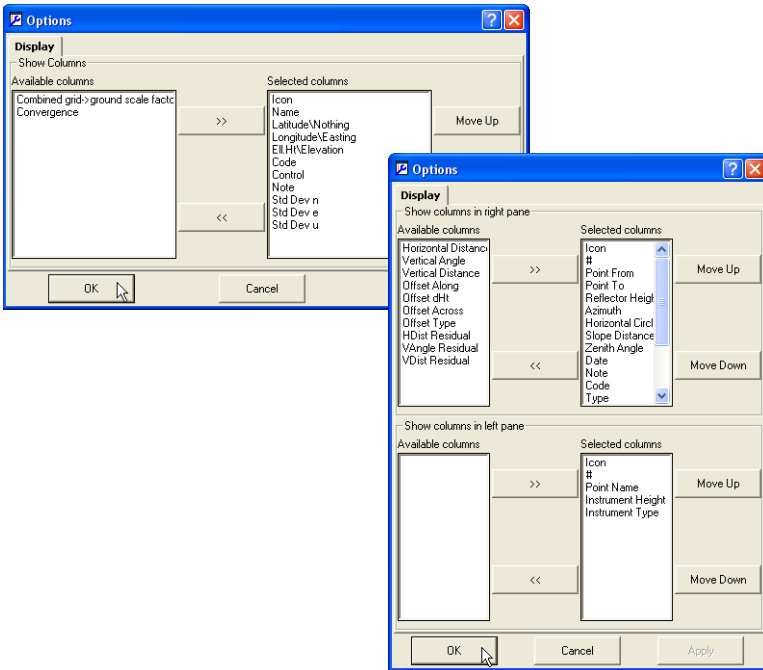

Figure 4-57. Example Tab Options for Points and TS Obs
2. Select and arrange the desired columns (Figure 4-57 on page 4-50).